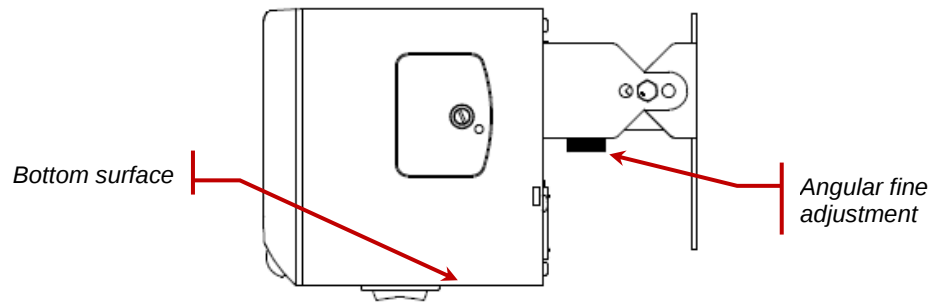

Figure 11 Kepri Side View with Bottom Approximately Parallel to the Floor
2. Adjust the module so the bottom of the device is approximately parallel with the floor. Refer to Figure 11.
5. Adjust the angle of the Kepri module until the Tilt indicator is green. This may require you to loosen the side screws ; but do not remove the screws. The target range is 1° - 5° above the horizon; use the fine adjustment screw if necessary. Refer to Figure 11.